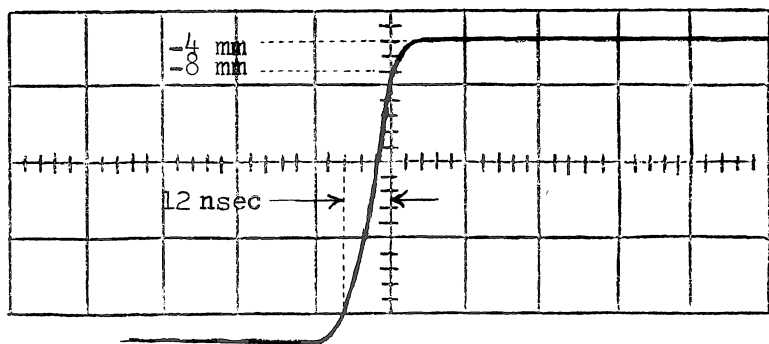

FIG. 15-5. Illustrating risetime measurement technique using standard graticule (15.2, 15.3).
- G. DO NOT TOUCH VERTICAL POSITION CONTROL. Adjust Horizontal position controls so the waveform display crosses the vertical centerline of the graticule exactly 8 mm below the top graticule line (See Fig. 15-5).